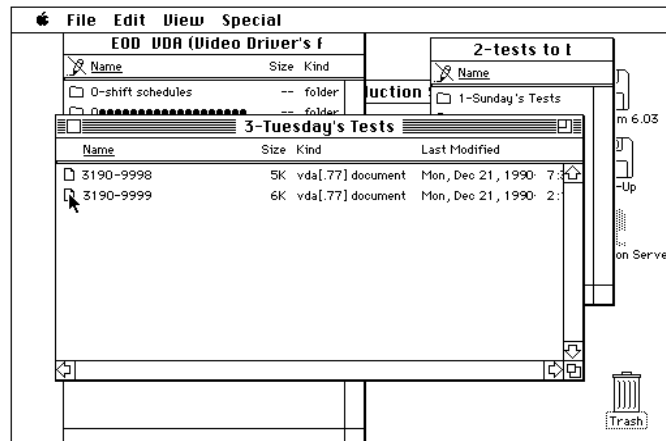

Figure 13
- 12.4 Position the mouse pointer in the daily tests window on the appropriate test number and double click to open it. See Figure 13. If the test number cannot be located, notify the senior technician.